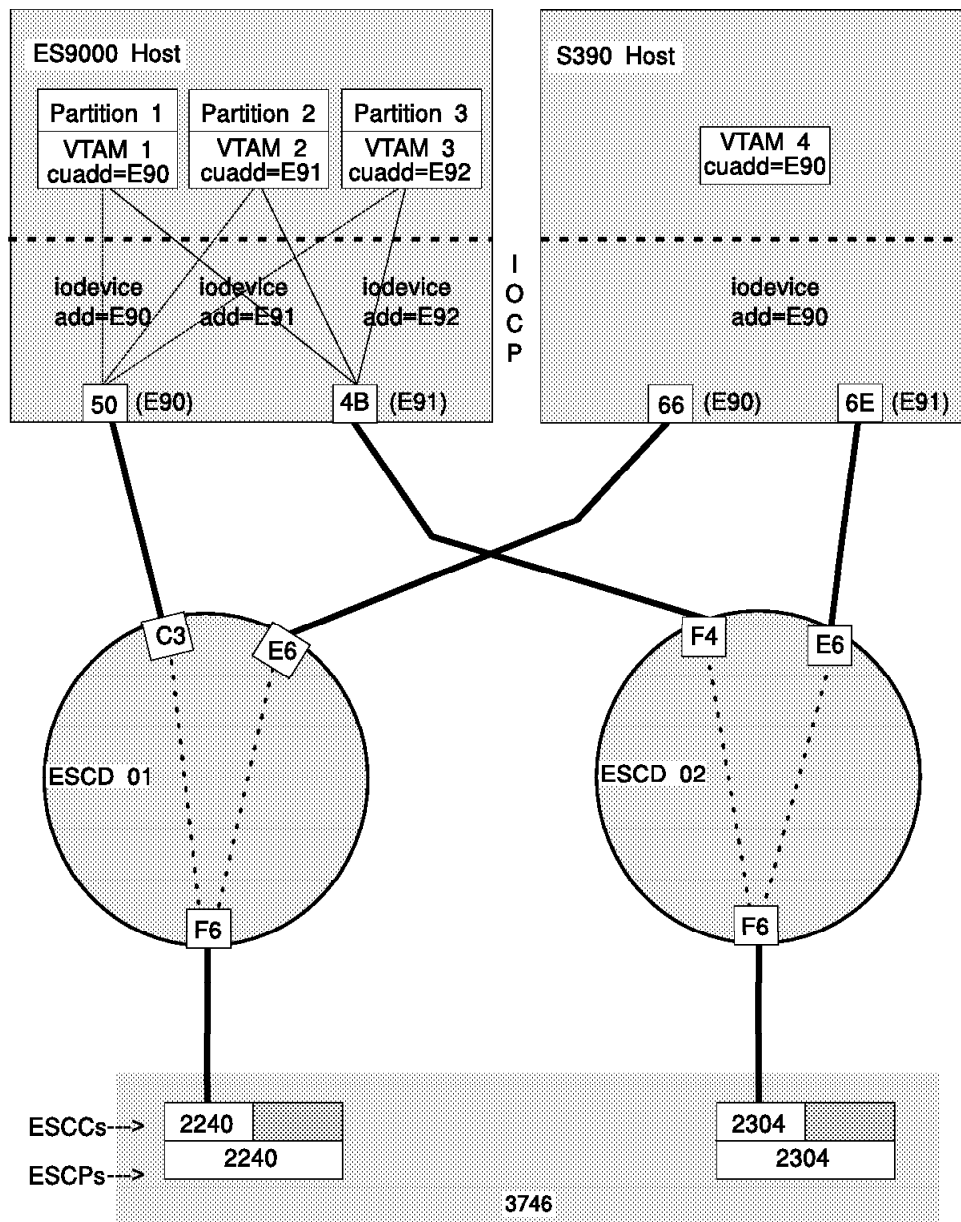

Figure 12. A Possibly Invalid ESCON Configuration
The ESCON configuration defined in IOCP/HCD (each ESCA has a host links and logical link stations defined) in Figure 12 is:
**Invalid IOCP Definitions:** When the following IOCP definitions are used with the ESCON configuration in Figure 12 on page 148, the results are *invalid*.
**Valid IOCP Definitions:** When the following IOCP definitions are used with the ESCON configuration in Figure 12 on page 148, the results are *valid*. It has as many CNTLUNIT statements (specifying a unique path to a CHPID) as ESCON station statements.